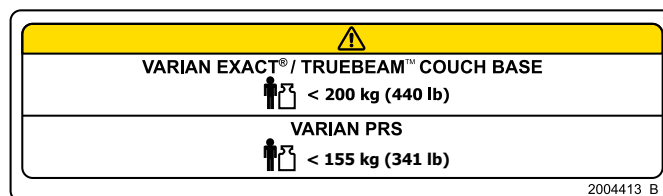

Fig. 44
3. Place 4" x 1.125" CAUTION label onto the back of the kVue under current 2" x 4" CAUTION label (Fig. 44).